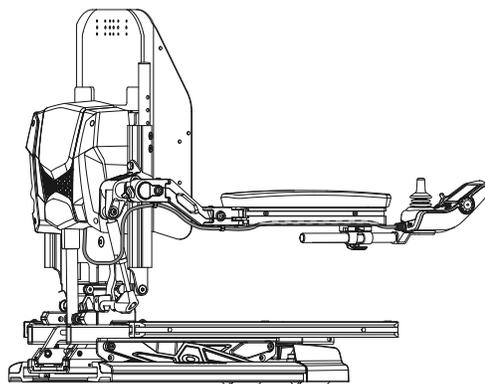

Figure 7. Controller Harness Routing on a TRU-Balance® 3
4. Install the controller and route the harness to the back of the power base. See figure 7, 8, 9, or 10.
6. Secure the controller harness to the armrest receiver with wire ties. See figure 7, 8, 9, or 10.